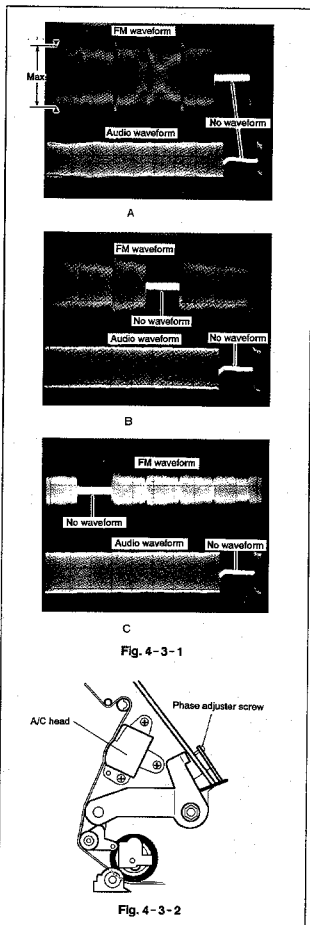

Fig. 4-3-1
- ① Play the alignment tape (PMX-C).
- ② Connect the TP5R and TP5S of the PCB VTR to ground to force the digital tracking to enter preset mode.
- ③ Connect TP2A (PCB VTR) to CH-1, and audio output terminal to CH-2 of the oscilloscope. Trigger the scope on the signal from the TP5A (PCB VTR).
- ④ Absence of FM waveform and audio waveform should be almost coincidental (A of Fig.4-3-1).
- ⑤ If the absence of FM waveform and audio waveform is completely out of phase as shown in B or C of the figure, turn the phase adjuster screw clockwise until the FM waveform looks like the waveform in A.
- ⑥ Fine tune the phase adjuster screw to maximum FM wave amplitude without changing its phase with respect to that of audio signal.
- ⑦ After adjustment, apply locking material (paint or the like) to the phase adjuster screw.